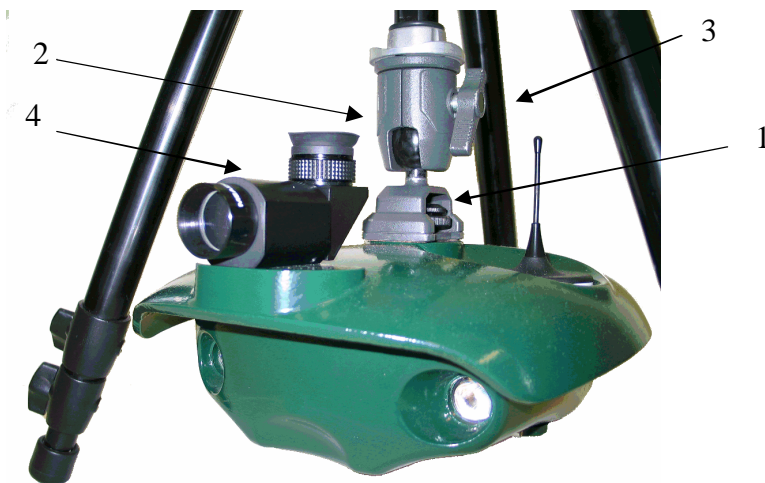

Figure 9 – Tripod installation.
Figure 9 shows the manner in which TIRTL is mounted in a temporary tripod installation. It is typical to mount TIRTL such that it hangs below the tripod center. For most installations this allows the infra-red beams to be located within 2 in. of the road surface. The figure shows how the tripod fitting is screwed into the sun-shield aperture (1). Once fitted to the tripod the body of TIRTL may be tilted and rotated for alignment purposes using the tripod gimbal joint (2). The gimbal may be locked in place using the locking screw of the tripod mount (3). The gimbal may be locked in place using the locking screw of the tripod mount (3).
Figure 9 also shows the manner in which the Optical Sight is fitted to the top of TIRTL sun-shield (4). The Optical Sight fits into the specially designed alignment holes located at the bottom of TIRTL and also in the sun shield. The Optical Sight is only used during alignment and should be removed after the process is complete. TIRTL unit must not be transported with the Optical Sight fitted.